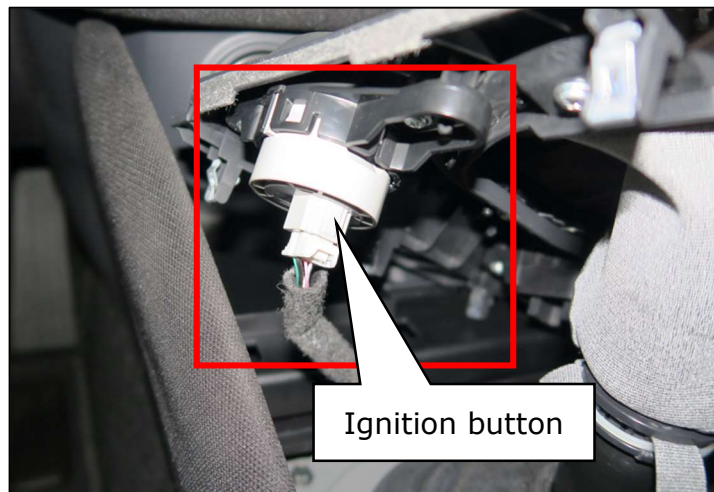

Figure 49
44. Reconnect the ignition button and the drive mode button (if equipped). (Figure 49)